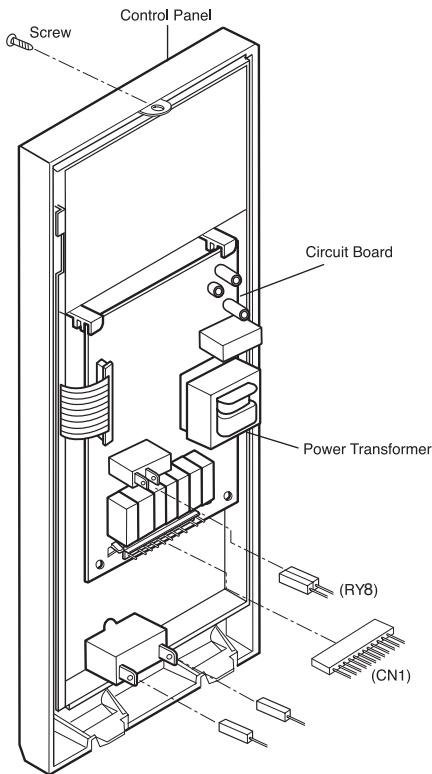

Figure 1
A. REMOVING POWER AND CONTROL CIRCUIT BOARD (Figures 1, 2 and 3)
- (1) Remove a screw securing the control panel assembly to the oven cavity.
- (2) Remove the control panel with pushing it upward.
- (3) Remove the connectors (CN1) and wire leads (Relay8) from the circuit board.